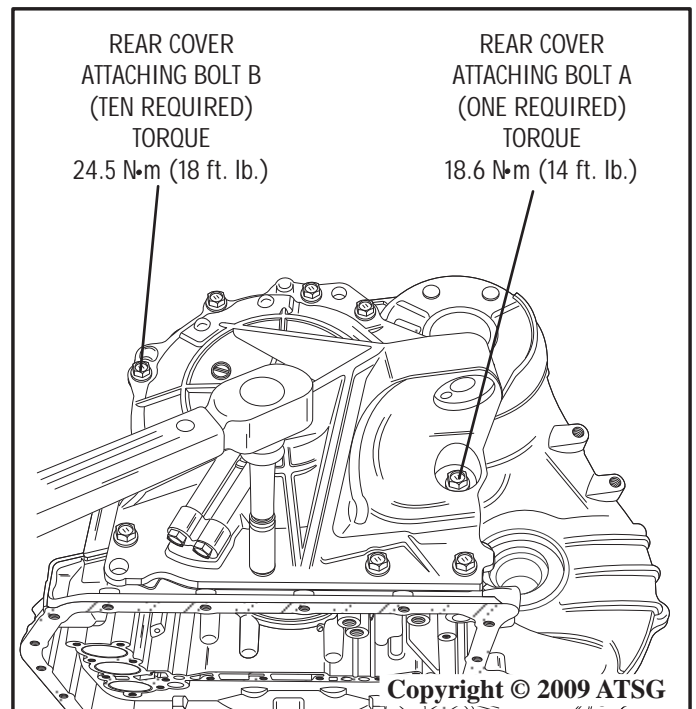

Figure 177
65. Apply a very small amount of liquid sealant Part No. 08833-00080, THREE BOND 1344, LOCTITE 242 or equivalent anaerobic sealant to the rear cover attaching bolt "A", then install the attaching bolts as shown in Figure 177.
66. Using a torque wrench, torque the rear cover attaching bolt "A" to **18.6 N·m (14 ft. lb.)** and attaching bolts "B" to **24.5 N·m (18 ft. lb.)** as shown in Figure 177.